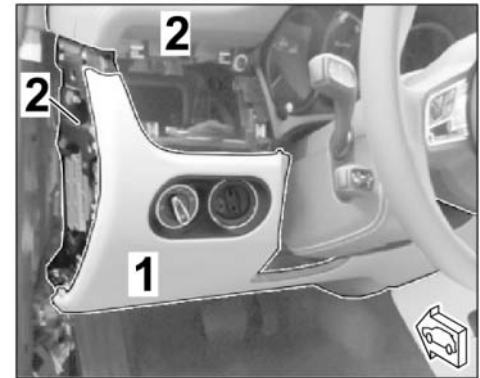

Figure 14
1.5.4 Remove trim panel under dashboard (⇒ Figure 14). ⇒ Workshop Manual '701919 Removing and installing trim panel under dashboard on driver's side'